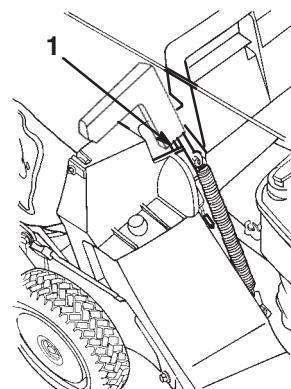

Figure 15
5. Pull the discharge door handle forward and then move it rearward until the pin locks in the bag notch (Fig. 15).